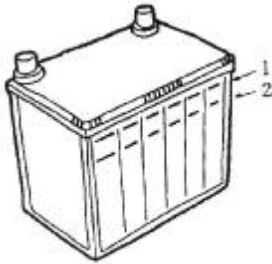

Fig. 20
3.4.2 Check each cell of the battery to see if the electrolyte level of the battery is between the upper and lower level marked on the battery. (Figure 20)